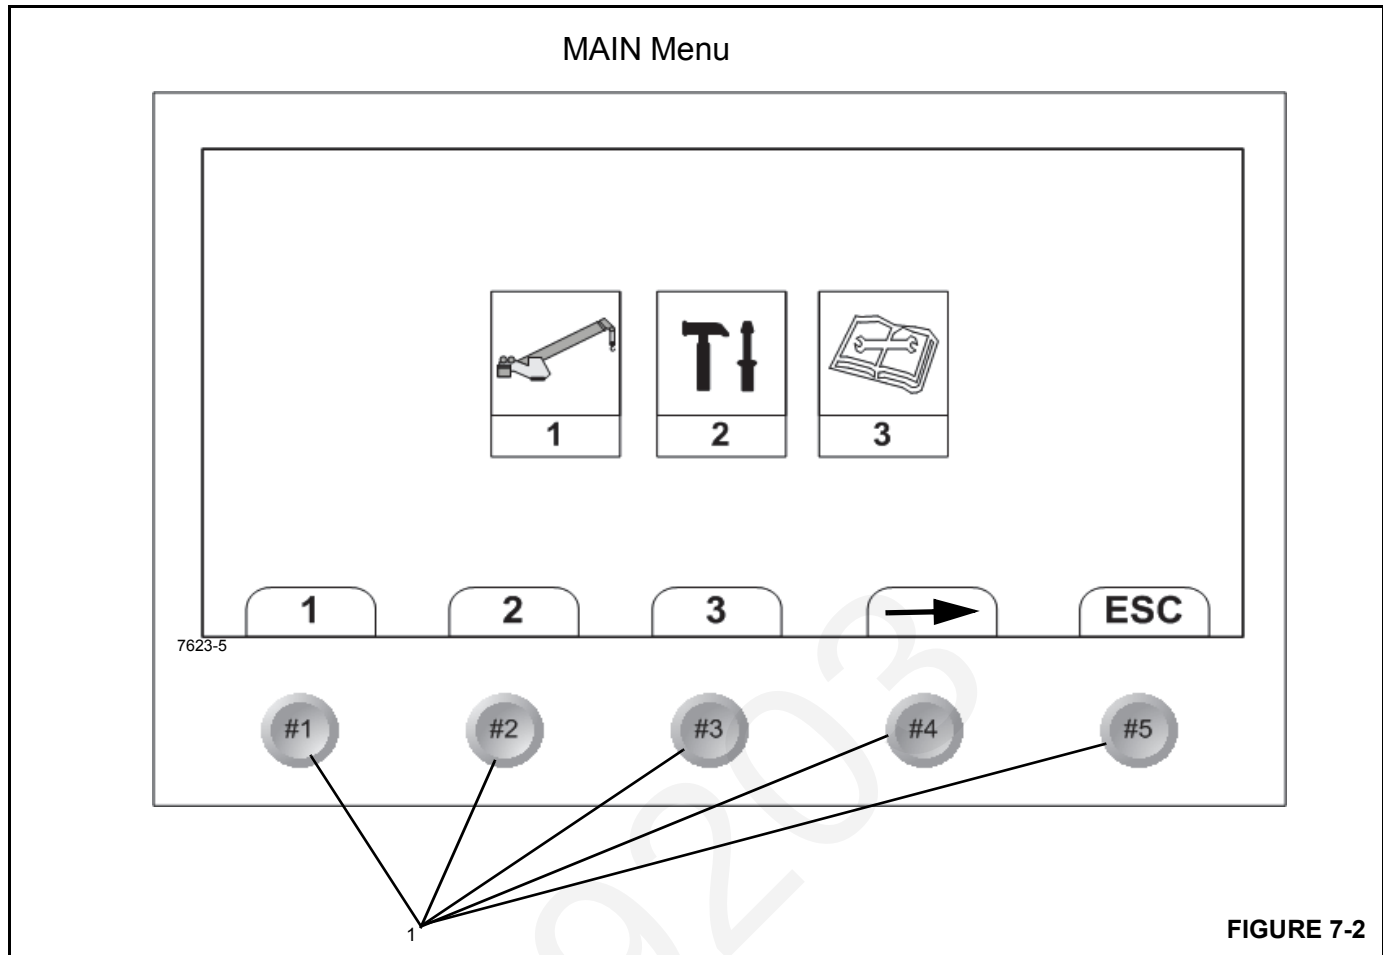

FIGURE 7-2
The MAIN Menu screen (Figure 7-2) is divided into the following three major sections which are used to set-up, operate, calibrate and troubleshoot the Load Moment Indicator system.
- **RCL Set-Up** - Select function key #1 (Figure 7-2) to configure the RCL system. This screen includes configuration and establishing operational limits for the boom, outrigger, hoist, and reeving. The RCL Set-Up screen also includes the RCL operating mode screen, see page 7-3.
- **Tools** - Select function key #2 (Figure 7-2) to access the tools screen, see page 7-9. This screen includes:
- **Diagnostic** - Select function key #3 (Figure 7-2) to access the RCL diagnostic menu, see page 7-10. This menu includes:
The Main Menu screen has five *function keys* (1, Figure 7-2) that are used to select the functions shown on the display screen above each key.
NOTE: On start up of the RCL, the National Crane logo screen will appear for approximately 5 seconds then Screen #1 (page 7-4) appears; to return to the Main Menu screen (Figure 7-2) select ESC.